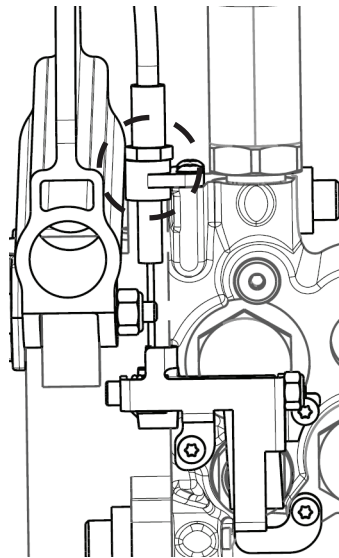

Figure 32 – Cable flush with bracket
6. Using an 8 mm combination wrench, thread the manual release cable through the bracket until the cable is flush with the bracket (Figure 32).